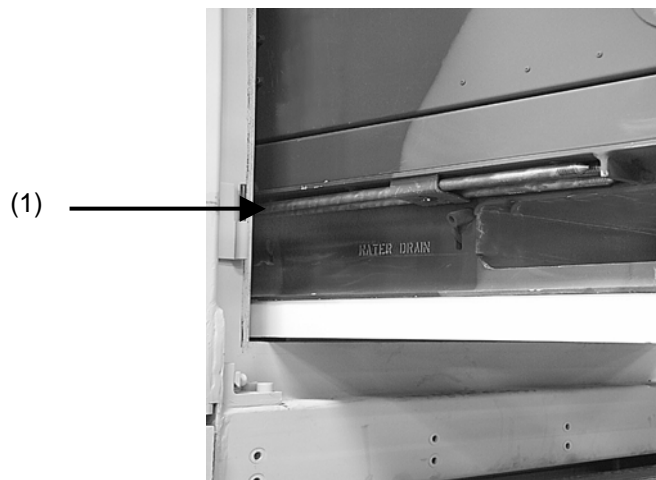

Figure 2-15. Grounding rod stored at bottom of generator.
SATS is supplied with a grounding rod kit. It includes three sections of copper ground rod (1), two couplers, a ground rod clamp on third or top segment, and a ground rod-driving stud. Grounding rod sections are stored on side plate underneath generator toward front of mechanical room (Fig. 2-15). All three segments are identical except the third section includes a ground rod clamp at top end. To ground SATS perform the following procedures: